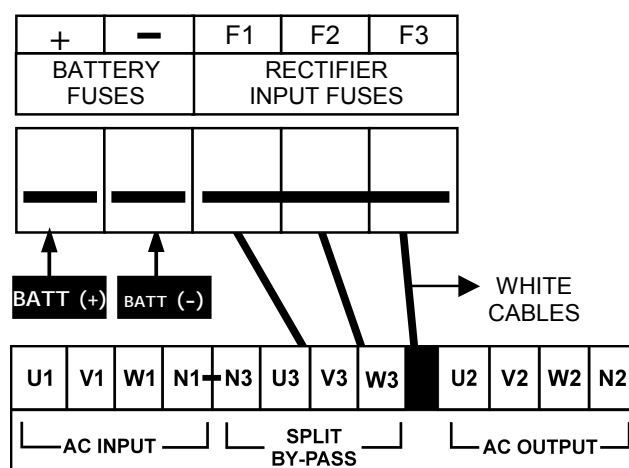

Figure 5-2 10-15-20 kVA Cable Connections
- The three white cables shown in Figure 5-2 are removed.